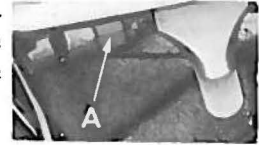

Fig. 21
Set thread tube (W, Fig. 2 or 2A) so the opening at its left end aligns with thread tube (T), though later it may be repositioned slightly to suit conditions. With needles at high position, the opening of the lower looper thread take-up wires (U) should be centered between the thread tubes, front to back. Adjustment can be made by loosening screw (A, Fig. 21), reposition take-up wire lever as required and retighten screw. A preliminary setting of the lower looper cast-off blade. (V, Fig. 2 or 2A) is to position its curved section to contact thread as soon as the needle head commences its downward stroke and barely touches the thread on its vertical surface located at the heel of the blade as the needle head completes its downward stroke. The cast-off blade can later be raised or lowered to increase or decrease amount of thread required in the system.